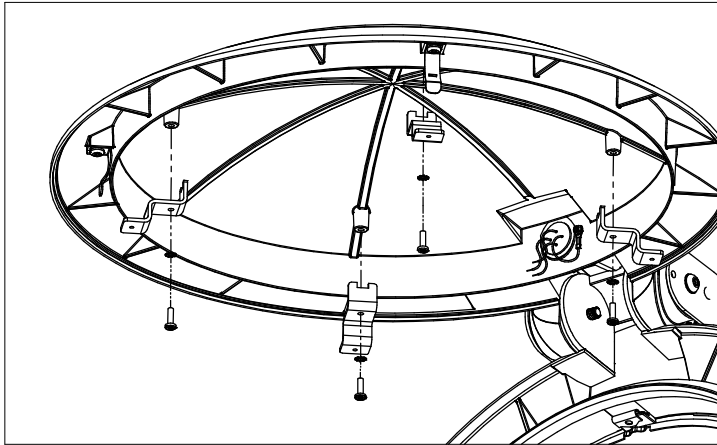
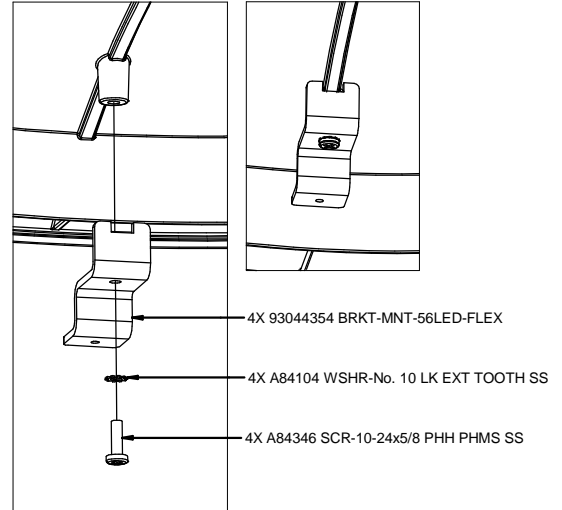

FIG. 3-1
FIG. 3-1A
1. INSTALL LED MOUNTING BRACKETS TO UNDERSIDE OF TOP HOUSING AT (4) BOSS POSITIONS. (FIG. 3-1; FIG. 3-1A)